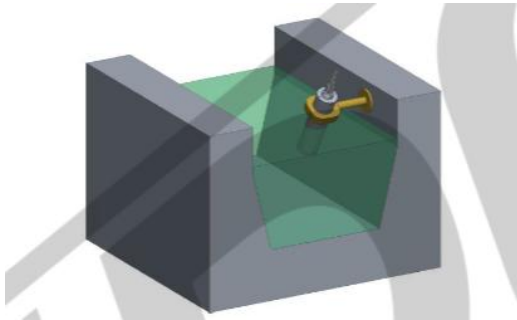

Figure 2-9: Installation in open ducts and basins
- When mounted in open ducts or pools, a bracket is required that attaches to the pool wall, as shown in **Figure 2-9** .